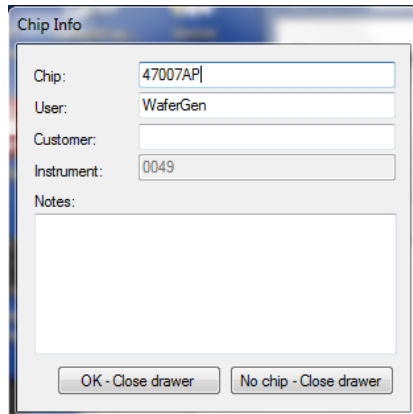

Figure 51. Chip Info dialog box.
- The *Chip Info* (Figure 51) dialog box will open. Enter values for “Chip”, “User”, and other requested information. This information will be included in the analysis files and Summary report.